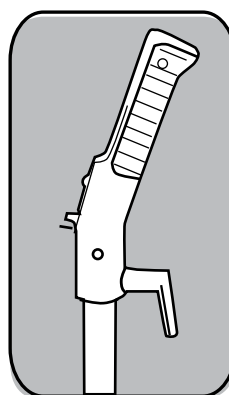

Fig. 3
1. The upper cord storage hook has a quick-release action. To release the cord, rotate the hook downward, and the cord will drop off the handle for immediate use (Fig. 3).